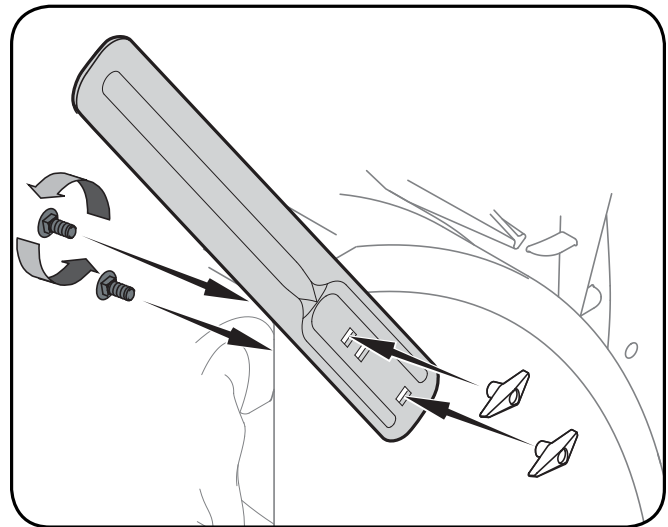

Fig. 3-9
- Reposition drift cutters so they face forward as shown in Figure 3-9. Secure with hardware previously removed, wingnuts should be fastened on the **outside** of the housing as shown.